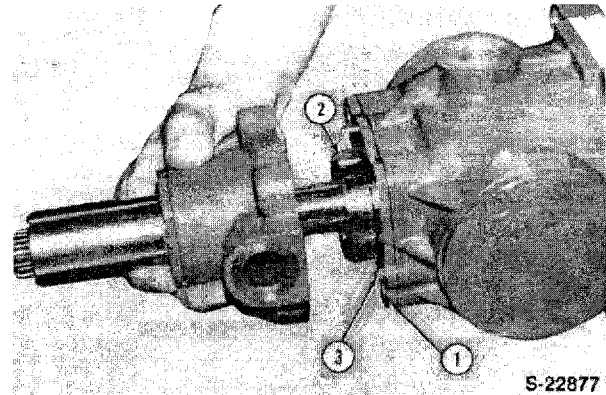
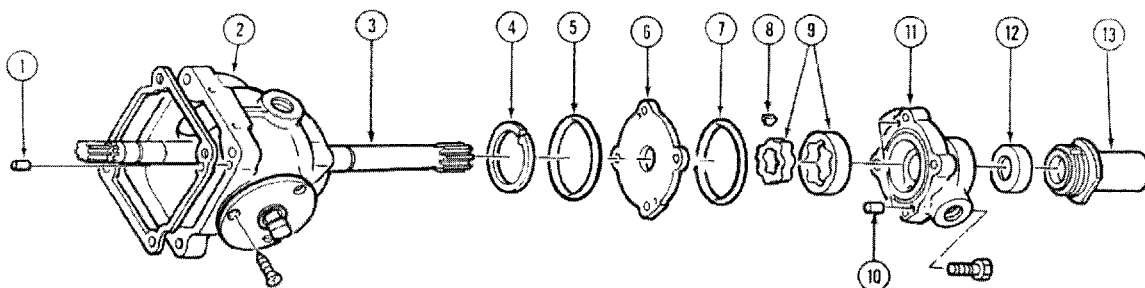

Figure 57
Figure 56
4. Install the input shaft and bearing assembly into the case. Secure with the snap ring (4) in place in the case, Figure 56.
5. Install the dowel pin (10) and o-ring (5) in the hydrostatic pump housing, Figure 56.
6. Install the wear plate (6) to the hydrostatic pump housing.
7. Install the drive key (8) and pump rotor assembly on the input shaft.
8. Press the seal (12), in place in the charge pump housing and install the throw-out bearing hub to the case. Tighten the retaining hub to 43.39 ± 4.39 lbs. ft. (58.80 ± 5.9 Nm).
9. Install the o-ring (7) to the charge pump housing.
10. Install the charge pump sub assembly to the case and tighten the retaining bolts to 13.0 ± 1.3 lbs. ft. (17.6 ± 1.7 Nm), Figure 57.